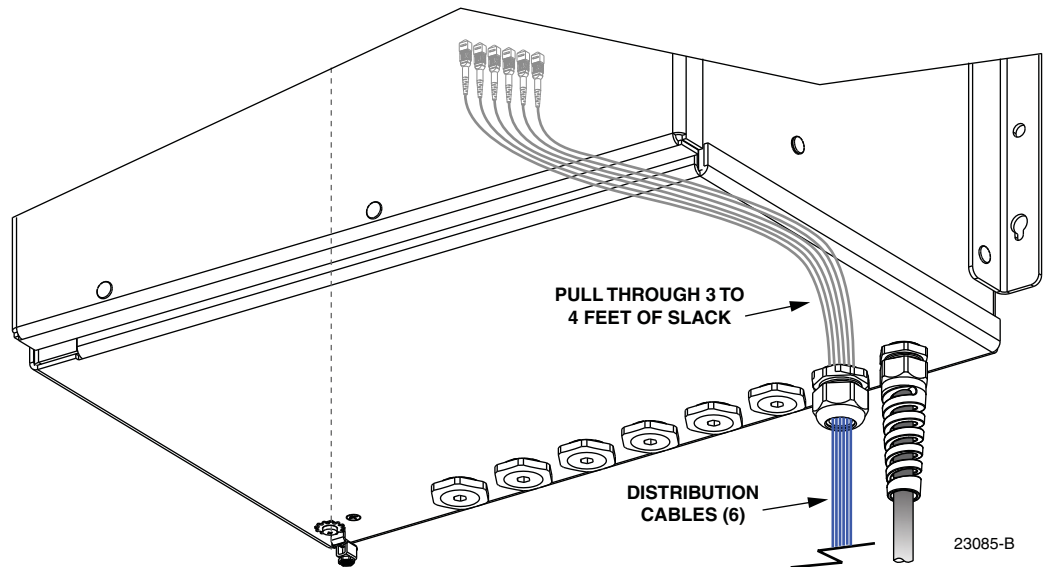

Figure 54. Inserting Distribution Cables into Compression Fitting
8. Insert the connectorized ends of the six distribution cables through the installed compression fitting as shown in Figure 54 and pull through 3 to 4 feet of cable slack into the cabinet.